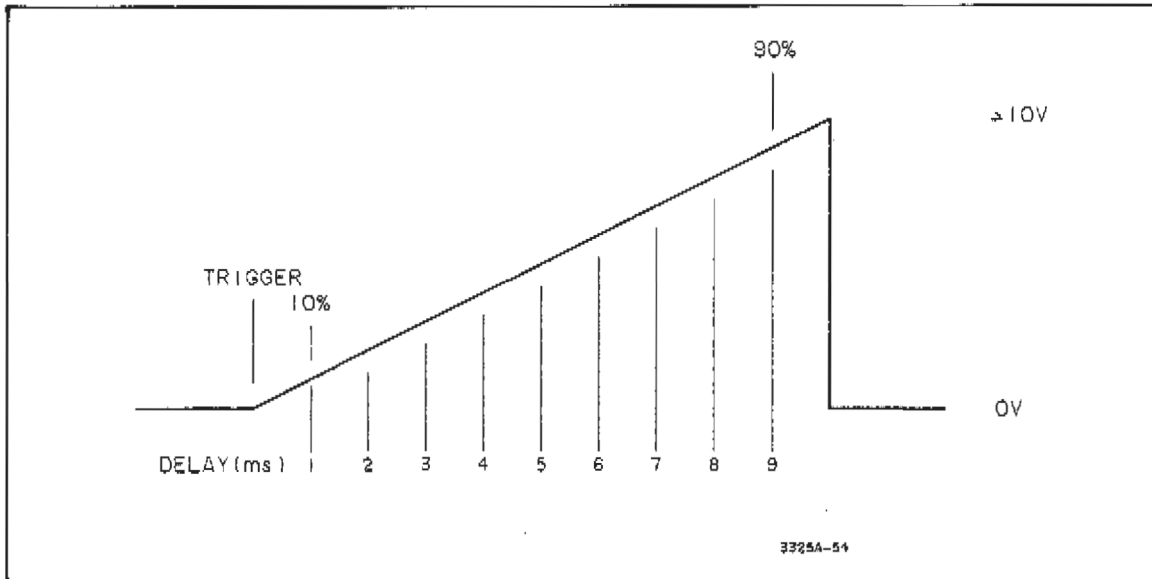

Figure 4-13. X Drive Linearity Test.
e. Set the digital voltmeter delay to .001 (seconds). Adjust the dc power supply for a digital voltmeter reading of -1.600 V. Record the digital voltmeter reading on the Performance Test Record under "X Drive Ramp Measurement, (10%), y1." This is the 10% point on the X Drive ramp. See Figure 4-13.